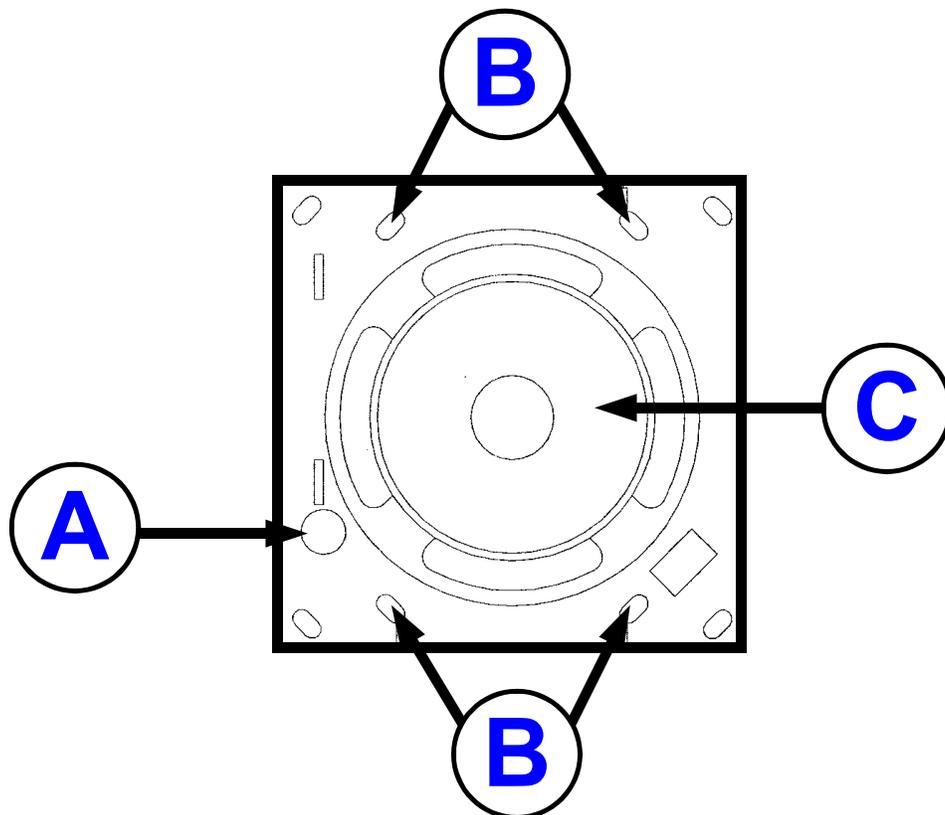

Figure 1 - Mounting the the Speaker /Microphone Assembly
1. Using supplied template, drill 4 holes in drywall (at locations marked "X"), see figure 1, and insert wall anchors.
5. Route the wires attached to the speaker through the wall hole assembly marked "C" in figure 1.
6. Line up mounting holes marked "B" in figure 1 with wall anchors (from step 1). Secure speaker/microphone assembly to wall using the provided screws.